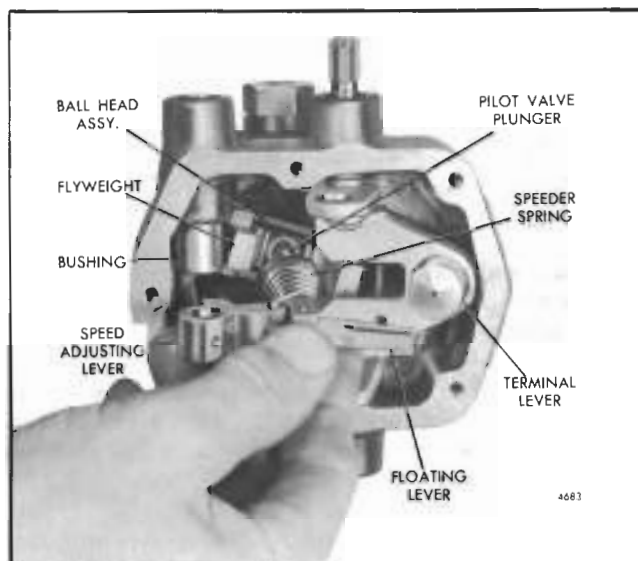
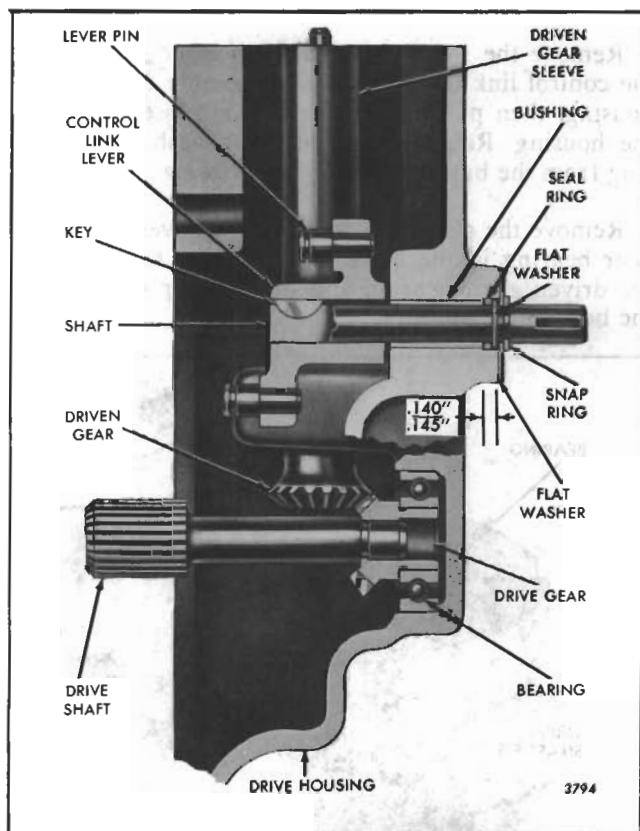

Fig. 16 - Installing Speed Adjusting Lever, Floating Lever, Speeder Spring and Pilot Valve Plunger Assembly
Fig. 1 - Governor Drive Assembly
18. Lubricate the pilot valve plunger thrust bearing with engine oil and place it over the end of the pilot valve plunger with the smallest, outside diameter, bearing race next to the spring seat (Fig. 1).
19. Lubricate the pilot valve plunger with engine oil. Then hold the thrust bearing against the spring seat and insert the assembly in the governor housing with the speed adjusting lever facing the two bushings in the housing (Fig. 16). Start the pilot valve plunger straight into the bore of the ball head and push the assembly in until the speed adjusting lever is in position between the two bushings and the thrust bearing is resting on the lip of the flyweights (Fig. 1).
20. Install the speed adjusting lever shaft (26) and roll (spring) pin (15) in the governor housing as follows:
22. If removed, thread the lock nut on the maximum speed adjusting screw (35). Place the copper washer on the adjusting screw, then thread the screw approximately halfway in the governor housing (Fig. 1).
24. Affix a new governor subcap gasket (56) to the top of the governor housing.
25. Place the governor subcap (64) on top of the gasket and housing with the fuel rod spring opening in the subcap facing the maximum speed adjusting screw side of the governor housing (Fig. 1). Install the two subcap screws and lock washers and tighten them securely.
26. Refer to Figs. 1, 7 and 12 and install the spring guide rod (77), spring guide rod seat (76), fuel rod spring (21), spring pad cover (80) and the load limit adjusting screw (8) in the governor subcap as follows:
- d. Affix a new gasket (79) to the flat face of the spring pad cover (80).
The governor is driven by one of the blower rotors through a horizontal drive shaft and drive (bevel) gear and an integral vertical driven (bevel) gear (Fig. 1). Each gear is mounted on a ball bearing and is contained in a drive housing that also serves as the blower front cover.
Refer to Figs. 1 and 2 and disassemble the governor drive assembly as follows:
Inspect the control link operating shaft and its bushing in the governor drive housing for wear. If a new bushing is to be installed, press it in the drive housing so it will be .140" to .145" below the outside face of the housing to provide space for the seal ring (Fig. 1).
Refer to Figs. 1 and 6 for the location of the various parts and assemble the governor drive as outlined below:
2. Lubricate the governor drive shaft bearing with engine oil, then insert the drive shaft, drive gear and bearing assembly straight into the bearing bore in the drive housing (Fig. 1).
a. Lubricate the control link lever shaft with engine oil, then slide the shaft through the bushing from the inner side of the housing (Fig. 1).